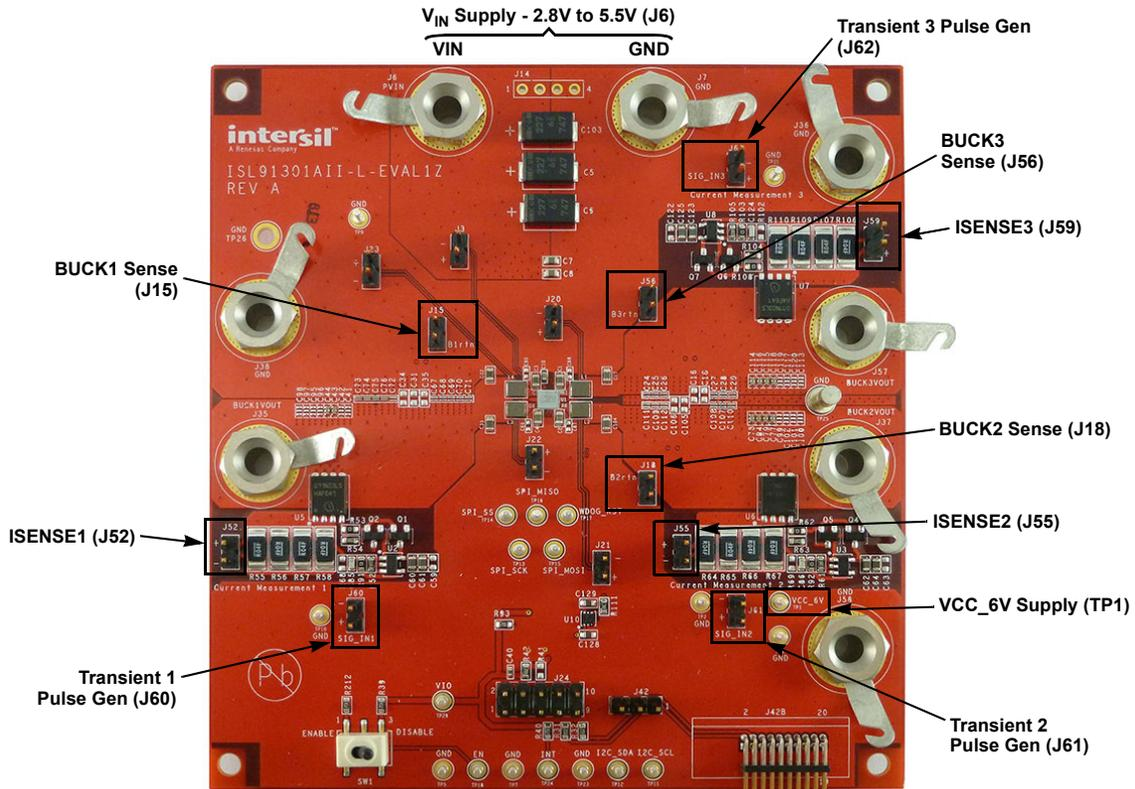

Figure 13. ISL91301AII-L/H-EV1Z Load Transient Measurement Connections
- (1) Go through the quick setup procedure (see “Setup Guide” on page 6). The ISL91301AII-L-EV1Z or ISL91301AII-H-EV1Z should already be powered up with 2.5 to 5.5V for the ISL91301AII-L-EV1Z and 2.8 to 5.5V for the ISL91301AII-H-EV1Z at J6 (VIN supply) and 6V at TP1 (VCC_6V).
- (2) Connect a slew rate controllable signal generator to the transient load circuit input, J60 (TRANSIENT 1 PULSE GEN), J61 (TRANSIENT 2 PULSE GEN), or J62 (TRANSIENT 2 PULSE GEN).
- (3) Program the signal generator to pulse mode, set the frequency to 100Hz, ON duration to 200 μ s, and signal amplitude from 0V to 2V. The load transient circuit starts to turn on when the input is \sim 2.6V. When in doubt, connect the signal generator output to an oscilloscope set to 1M Ω termination. The slew rate of the pulse, both rising and falling, should be conservatively slow, such as 1 μ s.
- (4) Connect a differential probe to monitor load current across the sense resistors J52 (ISENSE1), J55 (ISENSE2), or J59 (ISENSE3). The load current can be accurately converted to a voltage at 1A/10mV. Make sure the vertical scale of the oscilloscope is set properly to display the full amplitude of the load profile.
- (5) Connect a second differential probe at the VOUT sense points connected to the VOUT decoupling capacitors, J15 (BUCK1 SENSE), J18 (BUCK2 SENSE), or J56 (BUCK3 SENSE).
- (6) Set the oscilloscope to measure the rise and fall times and maximum level of the load current. Slowly increase the signal generator amplitude and slew rate until the desired load profile is achieved. For detailed setup information, refer to Figure 13 on page 14.